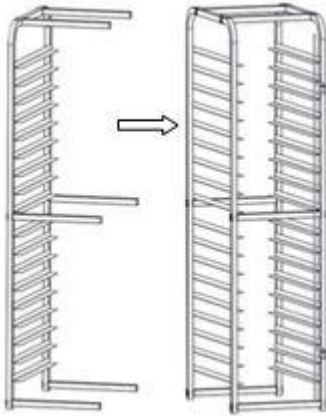

Fig. 1:
7. Mount 6 crossbars on the second lateral section, using washers and bolts, as described above. (Fig. 1)